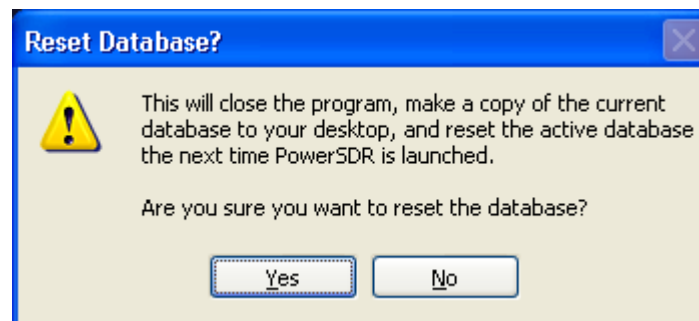

Figure 92: Reset Database Warning
- ❑ **Reset Database:** This displays the warning shown in Figure 92. Click **No** to avoid resetting the database. Click **Yes** to reset the database, which entails closing PowerSDR, copying the database file to your desktop and deleting it from its current location. The next time you start-up PowerSDR it will automatically create a new, clean database and read the EEPROM data from your FLEX-5000 to the database. The copy of the database on your desktop is an xml-file named *PowerSDR_database_[date]_[time].xml*.